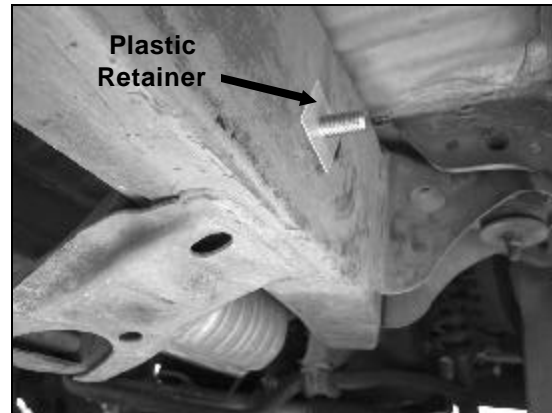

Figure 4
- To secure the Bolt Plate in place, put a Plastic Retainer on Bolt and thread tight against the frame (**Figure 4**).